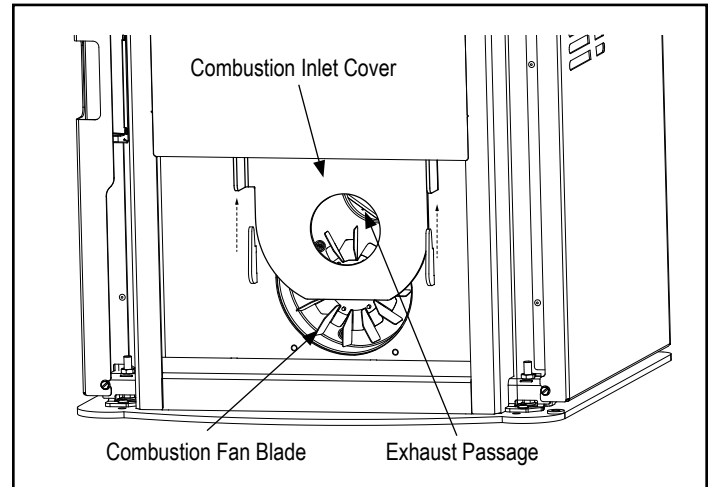

Figure 2.7
The combustion inlet cover is located behind the ash pan that must be removed to properly clean the combustion fan blade. Figure 2.7.
- Remove combustion inlet cover by pulling up on cover. This allows access to the combustion fan blade and exhaust path. Figure 2.7.